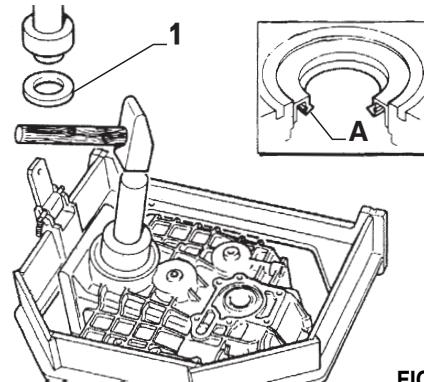
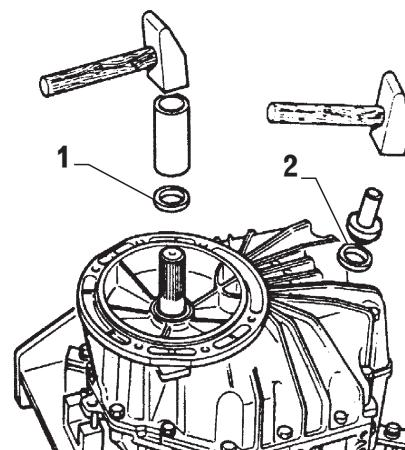

FIG. 4-3a
FIG. 4-3b
Apply thin coat of Loctite 574 on periphery of new radial shaft seal rings (item 1-2, Fig. 4-3a and Fig. 4-3b).
The radial shaft seal ring (item 1, Fig. 4-3b) of the input half of the housing can only be mounted after the housing halves have been mounted with the gear set.